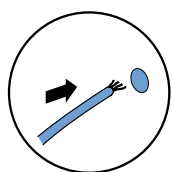

fig. 2.3 Hanging a motorized awning
1. Hang the awning in the wall supports. See figure 2.3 or electrical control or 2.4 for manual control mono inside.